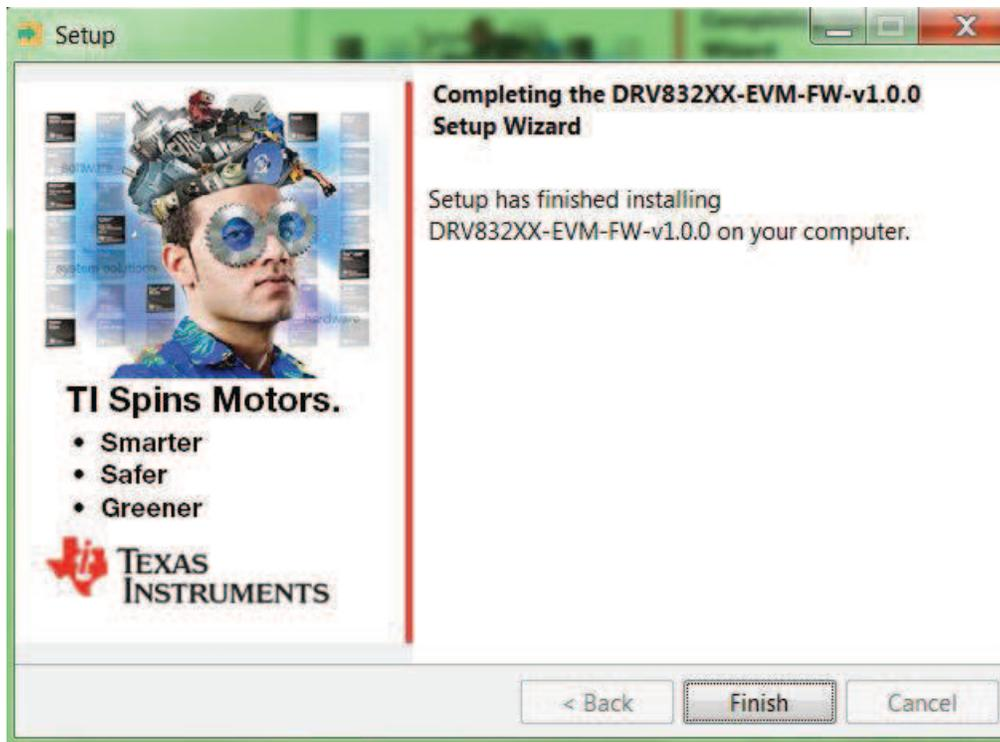

Figure 21. Firmware Setup Complete
- Step 10. Click the *Finish* button when the files are successfully installed in the destination folder (see Figure 21).